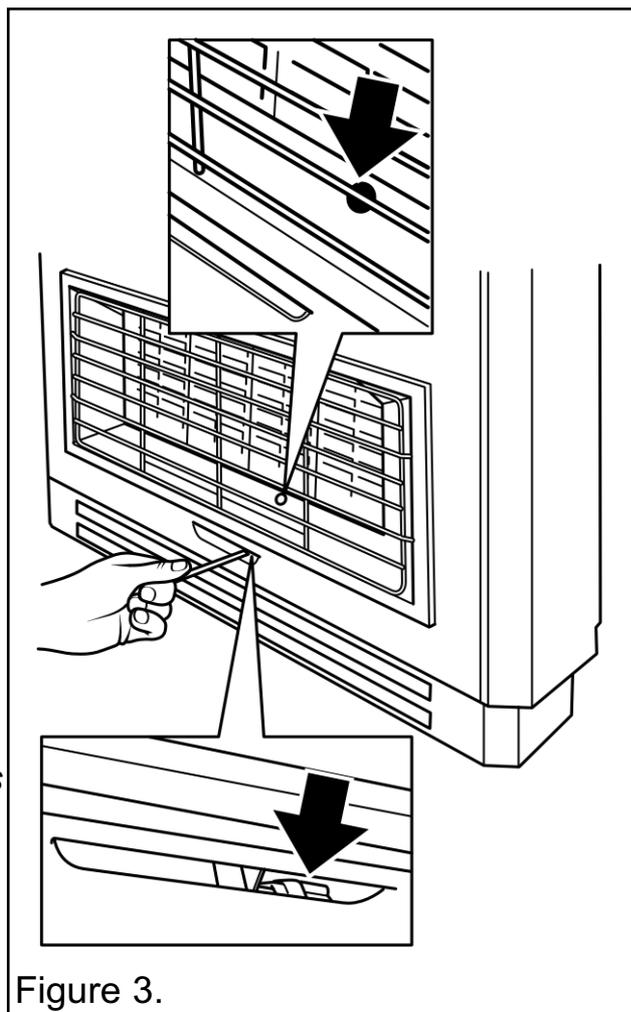

Figure 3.
- Depress the control knob and slowly turn anticlockwise towards the 1/IGN position. A spark should be generated at the pilot while turning. The spark should ignite the pilot. **If it does not**, keeping the knob depressed, continue to turn the knob anticlockwise. A **second** spark should ignite the pilot. The pilot flame can be seen through the opening immediately below the right hand centre radiant (See figure 3).
- Depress the control knob slightly and turn anticlockwise towards the 1/IGN position. Do not apply too much pressure as this will cause resistance to be felt. Depress the control knob. Sparks should be generated at the pilot. The sparks should ignite the pilot. If the pilot does not light, turn the control knob back to the 'OFF' position and try again. The pilot flame can be seen through the opening immediately below the right hand centre radiant (See figure 3).
While keeping the knob depressed, light the pilot by inserting a long match or taper into the opening shown in figure 3 (Second opening from the right).